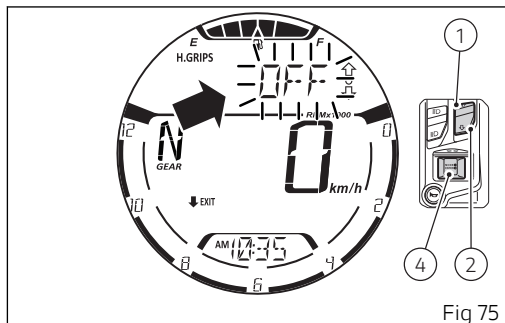

Fig 75
The level can be set by pressing button (4). The instrument panel enters the setting procedure of the heated handgrips level, making the current level flash and showing the indication "EXIT" preceded by the black arrow facing downwards (Fig 75).